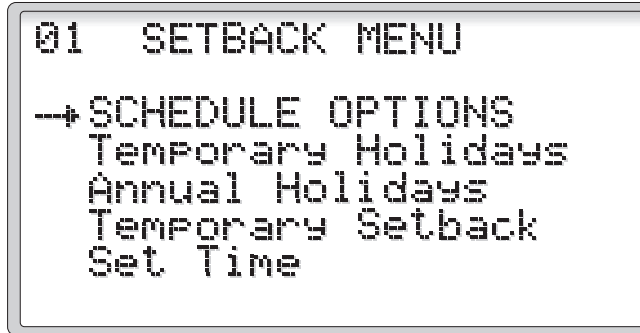

Figure 25
2.3.2 Setback Menu (Figure 25)
Selecting the Setback menu displays the screen shown in Figure 25. This allows selecting the Schedule Options, Temporary Holidays, Annual Holidays, Temporary Setback or a screen for setting the Time and Date.